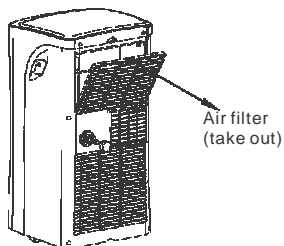

Fig.24
Take the air filter out along the arrow direction (Fig.24).
- Remove the plug from the bottom drain outlet, all the water in the bottom tray would drain out (See Fig.24).